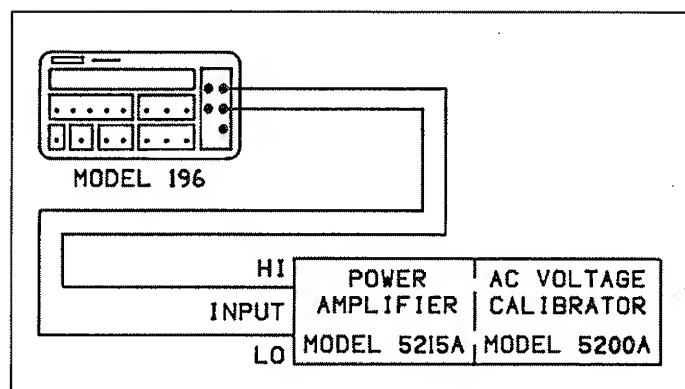

Figure 4-2. Connections for TRMS AC Volts Verification
2. Connect the AC calibrator to the Model 196 as shown in Figure 4-2.